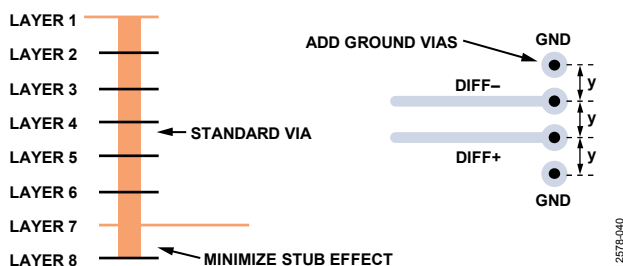

Figure 69. Minimizing Stub Effect and Adding Ground Vias for Differential Stripline Traces
- If using standard vias, use the maximum via length to minimize the stub size. For example, on an 8-layer board, use Layer 7 for the stripline pair (see Figure 69).
- For each via pair, place a pair of ground vias adjacent to them to minimize the impedance discontinuity (see Figure 69).